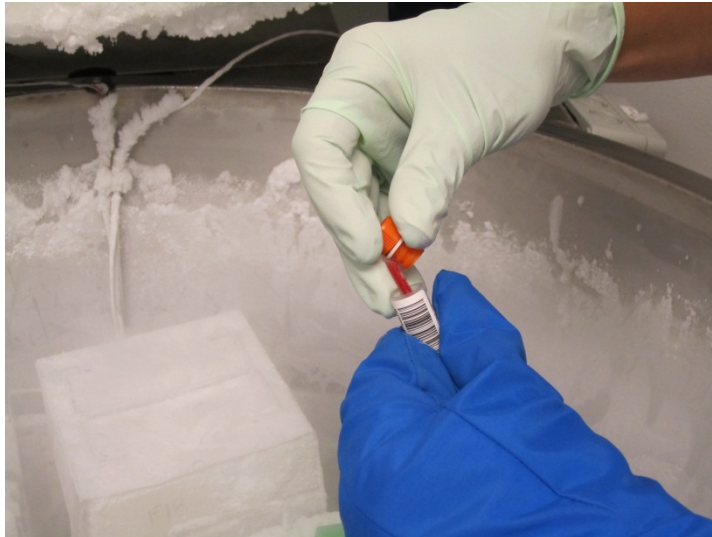

Figure 5c
- g. Place the segments in a labeled 2 mL cryogenic vial (see Figure 5c) and return to LN₂ freezer. Segments may be stored in the liquid or vapor phase of liquid nitrogen as long as the temperature is maintained at less than -150°C.